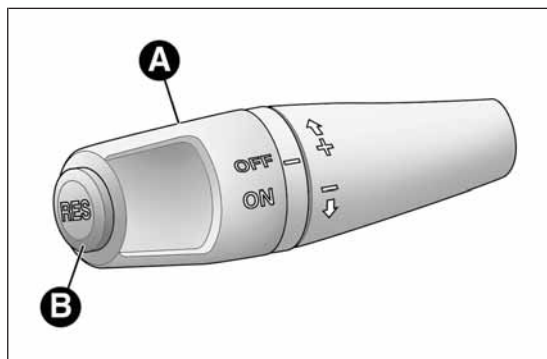

fig. 38
Turn ring nut A fig. 38 to ON.
- ☐ turn ring nut A fig. 38 to ON and press the accelerator to reach the required speed.
- ☐ press the RES button (B fig. 38).
- turn ring nut A fig. 38 to OFF;
If operation is inadequate or the device is faulty, turn ring nut A fig. 38 to OFF and contact Alfa Romeo Authorized Services.